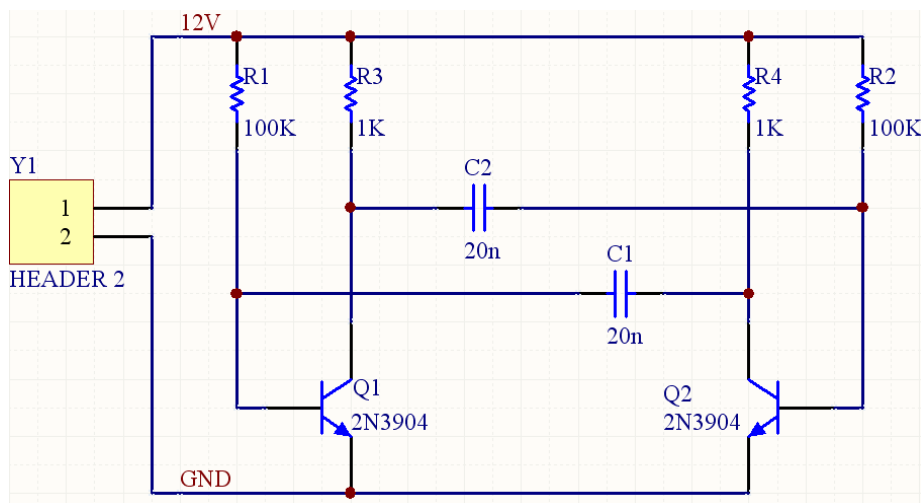

Figure 3. The fully wired schematic
11. Wire up the rest of your circuit, as shown in Figure 3.
A wire that crosses the end of a pin will connect to that pin, even if you delete the junction. Check that your circuit looks like Figure 3 before proceeding.